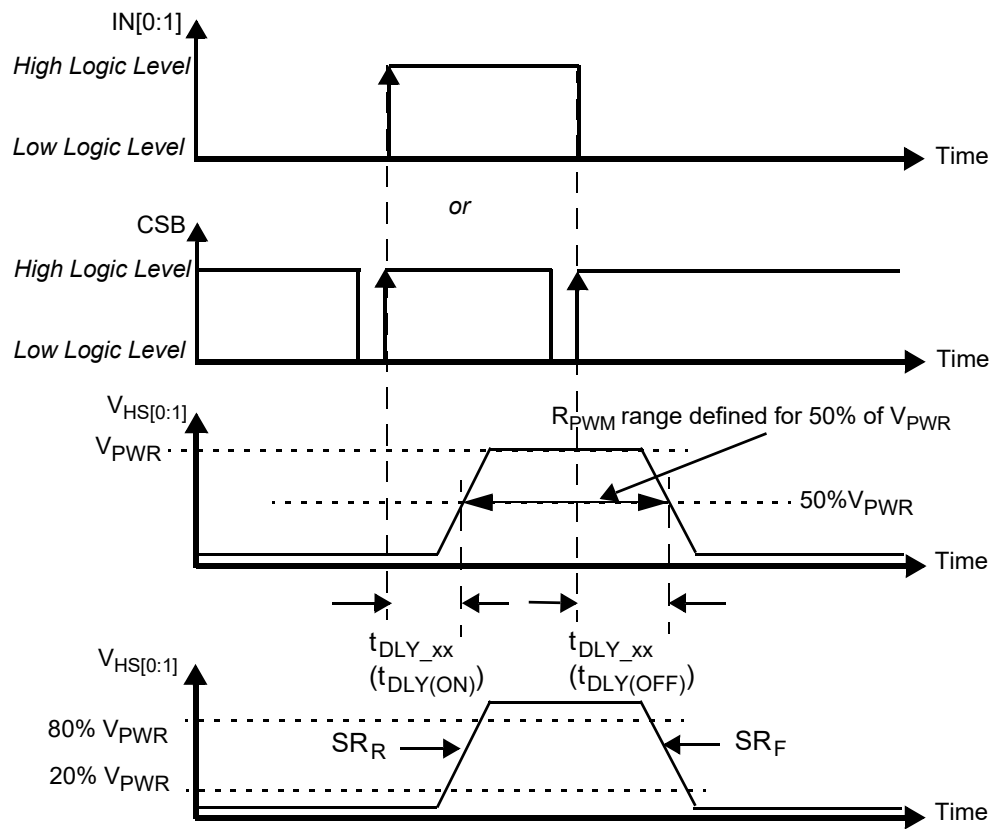
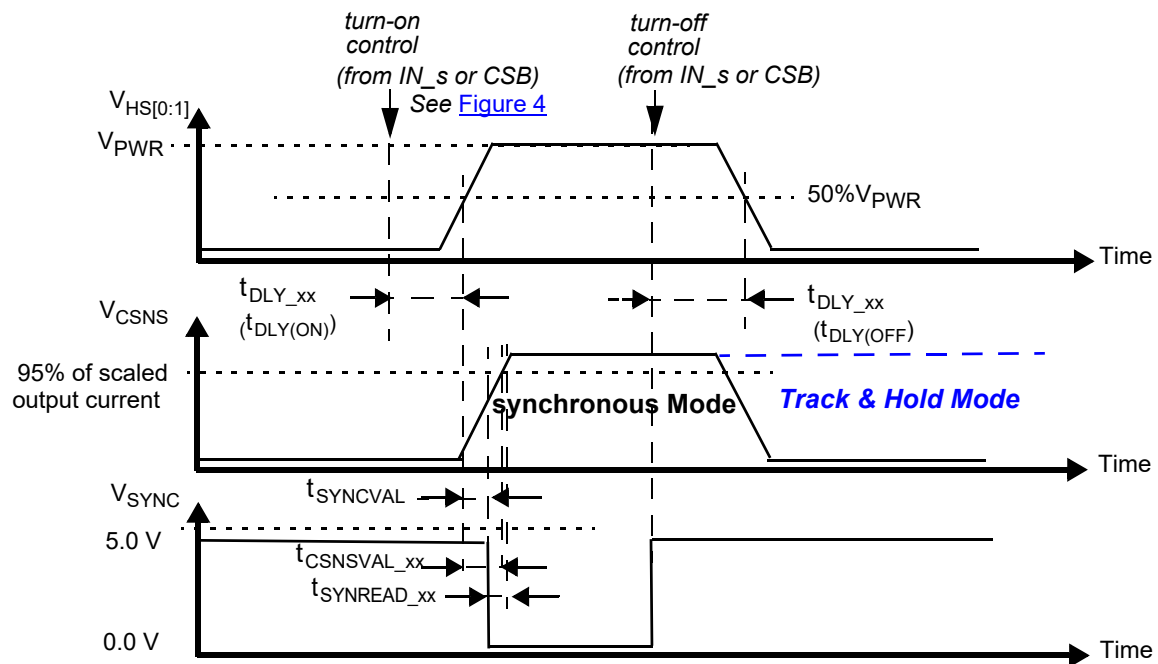

Figure 4. Output voltage slew rate and delay
Figure 9. Synchronous and Track & Hold current sensing modes: associated delay and settling times
31. Rising and Falling edge slew rates specified for a 20 to 80% voltage variation on a $10\text{ }\Omega$ resistive load (see Figure 4).
33. Time required to switch off the channel after detection of overtemperature (OT), overcurrent (OC), SC or UV error (time measured between start of the negative edge on the FSB pin and the falling edge on the output voltage until $V(\text{HS}[0:1]) = 50\%$ of V_{PWR}).
34. Settling time ($= t_{\text{CSNSVAL_xx}}$), SYNC output signal delay ($= t_{\text{SYNCVAL_xx}}$) and Read-out delay ($= t_{\text{SYNREAD_xx}}$) are defined for a stepped load current ($100\text{ mA} < I(\text{LOAD}) < \text{IOCLX A FOR CSNS_RATIO_S} = 1$, AND $300\text{ mA} < I(\text{LOAD}) < \text{IOCLX A}_0 \text{ FOR CSNS_RATIO_S} = 0$). (see Figure 9 and Output current monitoring \(CSNS\))
35. Settling time ($= t_{\text{CSNSVAL_xx}}$), SYNC output signal delay ($= t_{\text{SYNCVAL_xx}}$) and Read-out delay ($= t_{\text{SYNREAD_xx}}$) are defined for a stepped load current ($100\text{ mA} < I(\text{LOAD}) < I_{\text{OCLX A}}$ FOR $\text{CSNS_RATIO_S} = 1$, AND $300\text{ mA} < I(\text{LOAD}) < I_{\text{OCLX A_0}}$ FOR $\text{CSNS_RATIO_S} = 0$). (see Figure 9 and Output current monitoring \(CSNS\))
The CS pin allows independent current monitoring of channel 0 or channel 1 up to the steady-state overcurrent threshold. It can also be used to sense the device temperature. The different functions are selected by setting bits CSNS1_en and CSNS0_en to the appropriate value (Table 23). When the CSNS pin is sensed during switch-off in the (optional) track & hold mode (see Figure 9), it outputs the scaled value of the load current as it was just before turn-Off. When several devices share the same pull-down resistor, the CSNS pins of devices, the current of which is not monitored, must be tri-stated. This is accomplished by setting CSNS0_en = 0 and CSNS1_en = 0 in their GCR register (Table 12). Settling time ($t_{CSNSVAL_XX}$) is defined as the time between the instant at the middle of the output voltage's rising edge ($HS[0:1] = 50\%$ of V_{PWR}), and the instant at which the voltage on the CSNS pin has settled to $\pm 5.0\%$ of its final value. Anytime an overcurrent window is active, the CSNS pin is disabled (see Overcurrent detection on resistive and inductive loads). The current and temperature sensing functions are unavailable in Fail-safe mode and in Normal mode when operating without the V_{DD} supply voltage. In order to generate a voltage output, this pin requires a pull-down resistor ($R(CSNS)=1.0\text{ k}\Omega$ typ. and $470 < R(CSNS) < 10\text{ k}$). When the current sense resistor connected to the CSNS pin is disconnected, the CSNS voltage is clamped to $V_{CL(CSNS)}$. The CSNS pin can source currents up to about 5.6 mA.
To synchronize current sensing with an external process, the SYNC signal can be connected to a digital input of an external MCU. An open-drain pull-down on SYNC indicates that the current sense signal is accurate and ready to be read. The current sense signal on the CSNS pin has the specified accuracy $t_{SYNCREAD_XX}$ seconds after the falling edge on the SYNC pin (Figure 9) and remains valid until a rising edge is generated. The rising edge that is generated by the SYNC pin at the turn-OFF instant (internal or external) may also be used to implement synchronization with the external MCU. Parameter $t_{SYNCVAL_XX}$ is defined as the time between the instant at the middle of the output voltage rising edge ($HS[0:1] = 50\%$ of V_{PWR}), and the instant at which the voltage on the SYNC-pin drops below 0.4 V (V_{SOL}). The SYNC pins of different devices can be connected together to save micro-controller input channels. However, in this configuration, the CSNS of only one device should be active at a time. Otherwise, the MCU is not be able to determine the source of the SYNC signal. The SYNC pin requires an external pull-up resistor to V_{DD} .